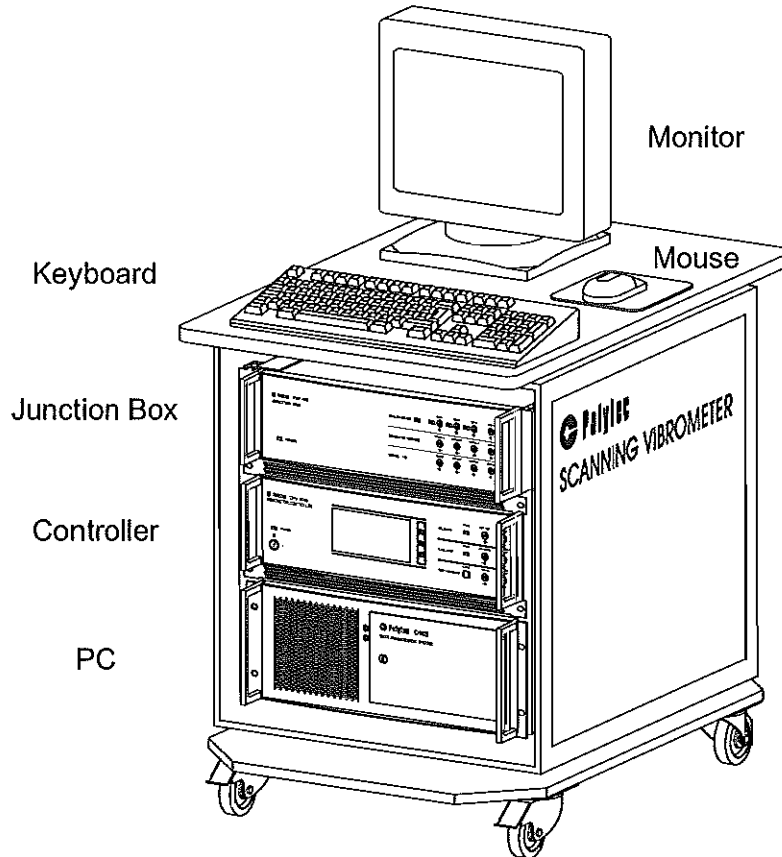

Figure 3.22: Position of the PSV components in the system cabinet
The position of the individual system components in the cabinet is shown in FIGURE 3.22.
7. Place the other system components on the system cabinet as shown in FIGURE 3.22.